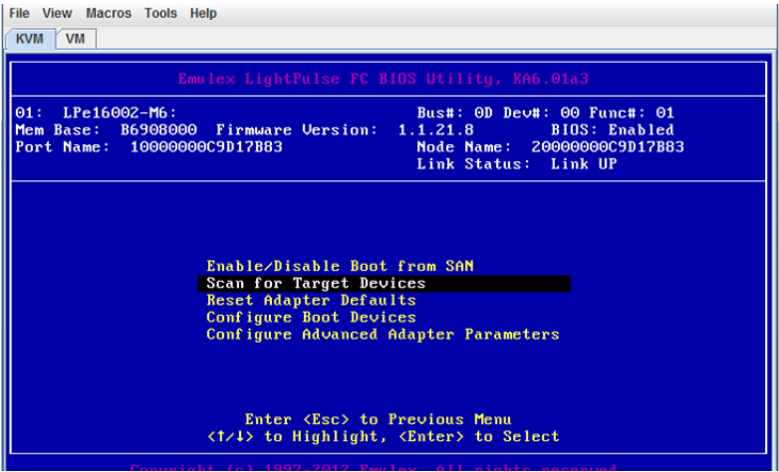

Figure 21 Scanning for Target Devices
4. After BIOS is enabled, scan for available target devices, as shown in Figure 21.